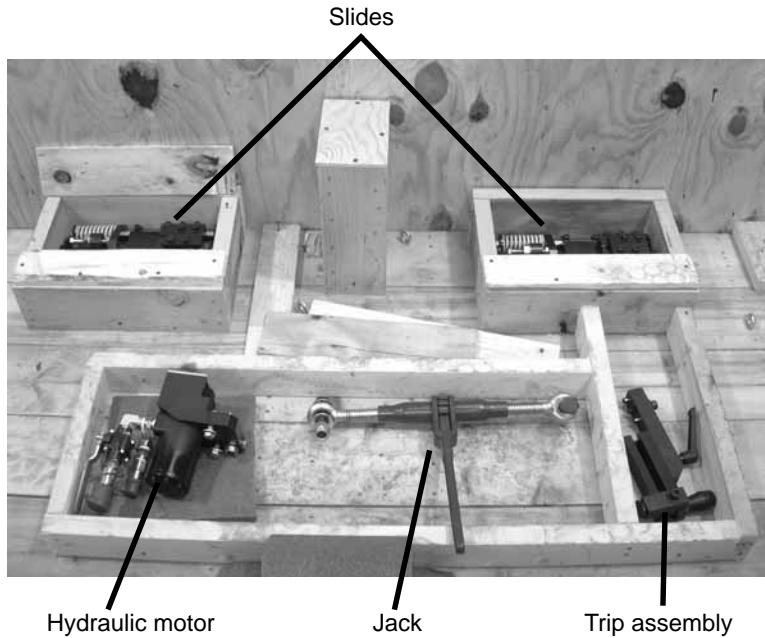

Figure 4-3. Store the smaller components of the machine in the bottom of the storage case.
1. Remove the slides, trip assembly, and hydraulic motor from the machine. Store them in the case as shown in Figure 4-3.